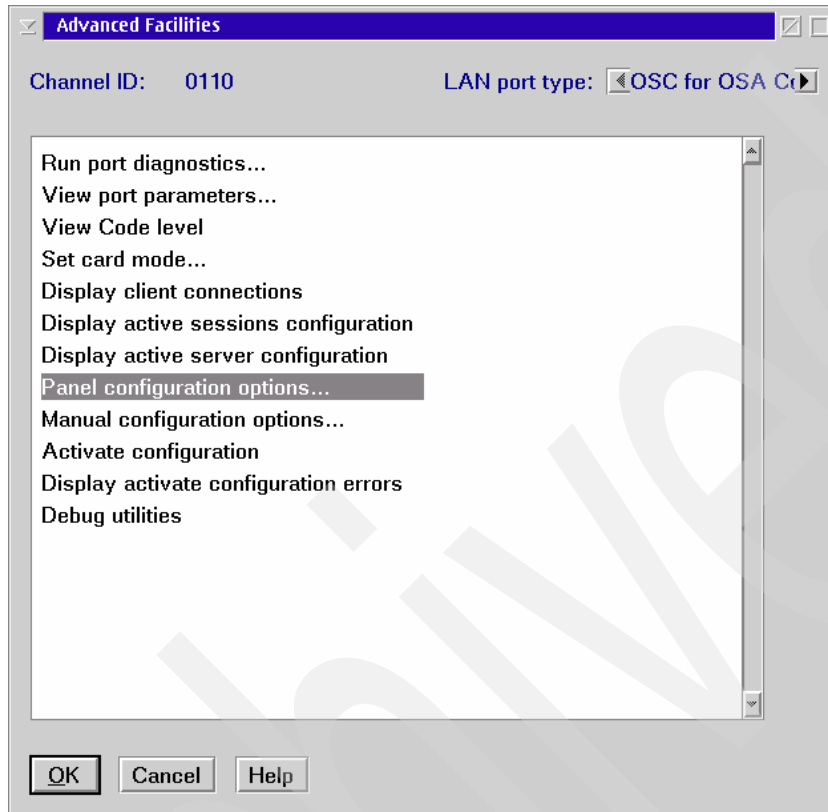

Figure 3-5 Advanced facilities
4. On the Standard Channel Advanced Facilities panel, click **Card specific advanced facilities**, and click **OK**. The Advanced Facilities panel is displayed (see Figure 3-5).